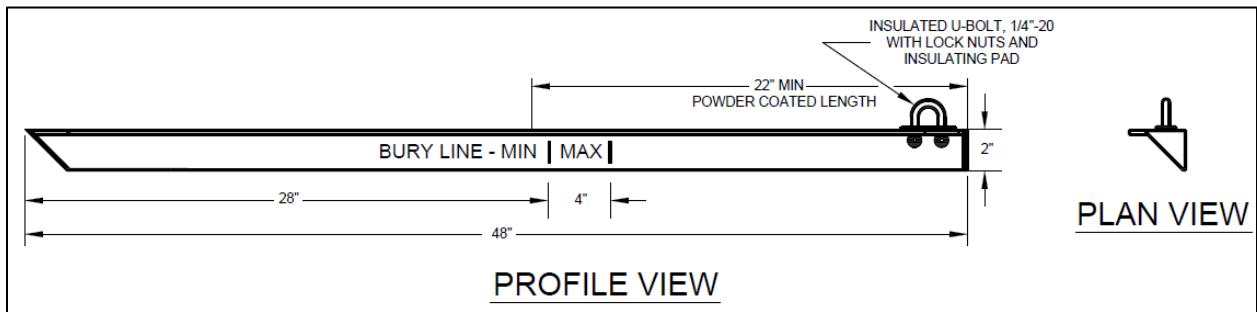

Figure 3. Meter Stake
- B. Is 2" x 2" x 3/16" angle iron. 48" long hot dip galvanize with grey polyester powder overcoat on top 22" shown in Figure 3.